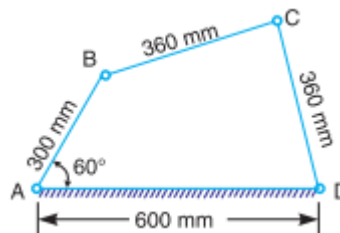

Figure 1
- In a pin jointed four bar mechanism, as shown in Figure 1, AB = 300 mm, BC = CD = 360 mm and AD = 600 mm. The angle BAD = 60°. The crank AB rotates uniformly at 100 r.p.m. Locate all the instantaneous centres and find the angular velocity of the link BC. [7M]